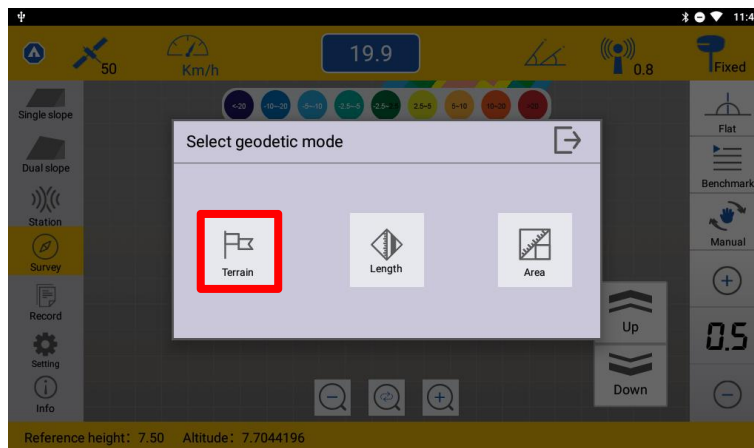

Figure 19
Step1. Click Survey and select Terrain to enter the terrain mode. (Figure 19)